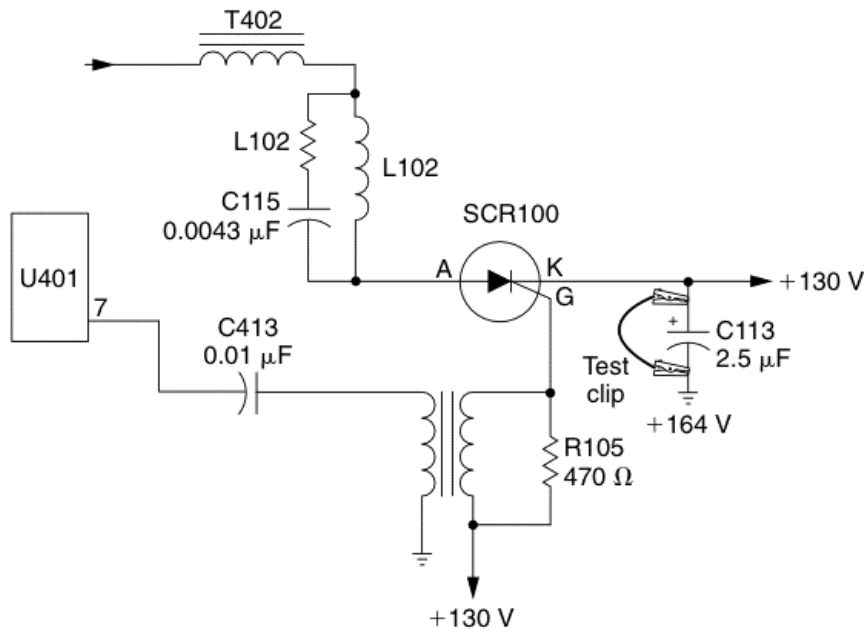

FIGURE 4-52 Testing the flyback in an RCA CTC111L chassis.
- 1 Short capacitor C113 with test leads (Fig. 4-52).